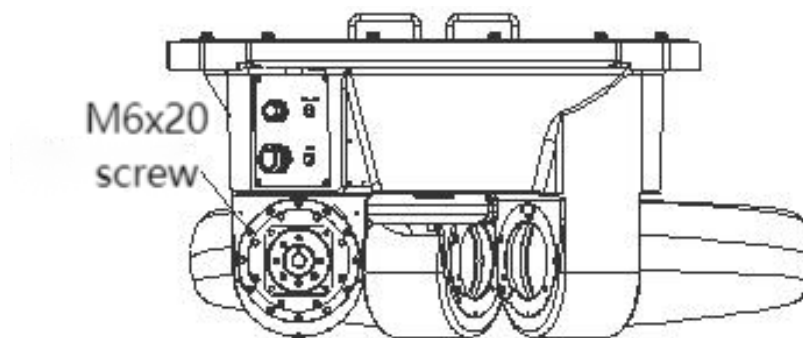

Figure 3-20 Speed reducer fixing screw
Step 2 As shown in Figure 3-20, remove the reducer by removing 12 hexagonal cylindrical head screws M6x20.